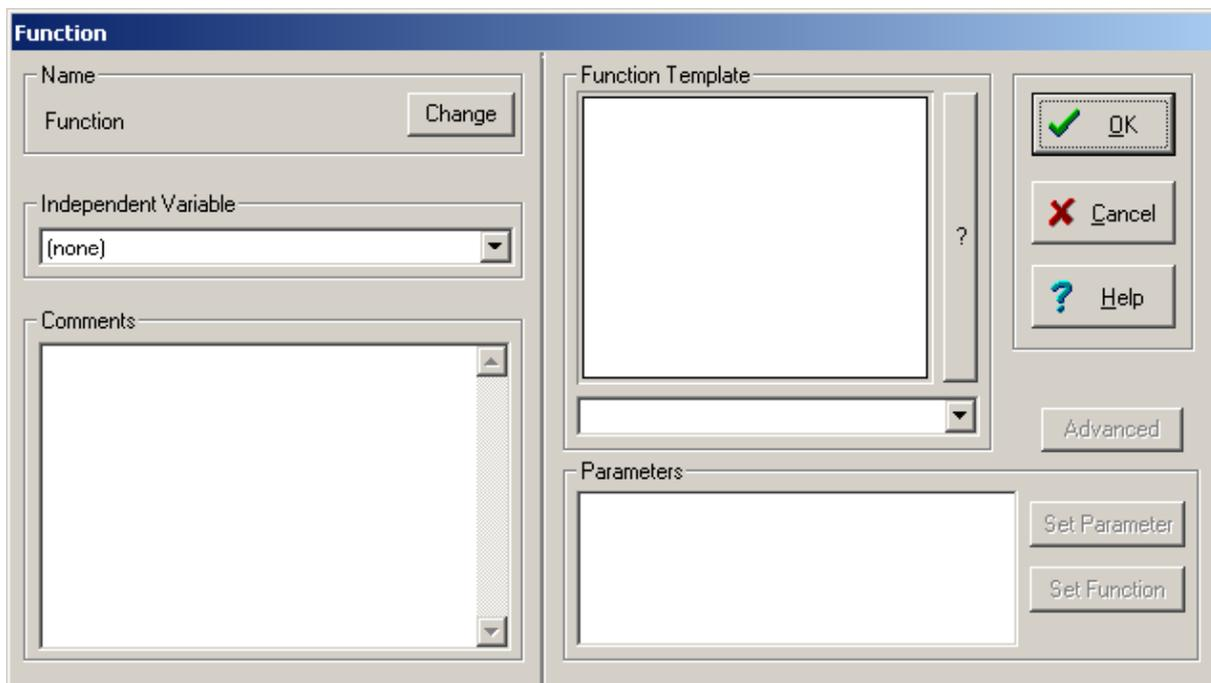

Figure 1.7 Function Selection Window
3. Select the **'Function'** button in the **'Add Component As'** panel to obtain the **'Function'** selection window (Figure 1.7).
The **'Function'** selection window (Figure 1.7) is used to set the stage transfer function's independent variables and its associated parameters. DYMEX uses this window as a standard throughout the Model Builder. Under the large white panel at the top right is a scroll button which gives access to the library of mathematical functions contained in DYMEX. When a function is selected, its shape is illustrated on the screen. The **'Set Parameter'** button (in the Parameters panel) is used to set default and limiting values of the parameters for the function. The **'Set Function'** button allows a function parameter be replaced by another function. The **'Comments'** edit box should be used to record pertinent information such as a reference to the source of the data used to estimate parameter values or reasons for choosing this particular function shape. The **'?'** button provides a detailed description of the selected function, e.g., providing the equation for the function in mathematical notation and explaining the role of each parameter.